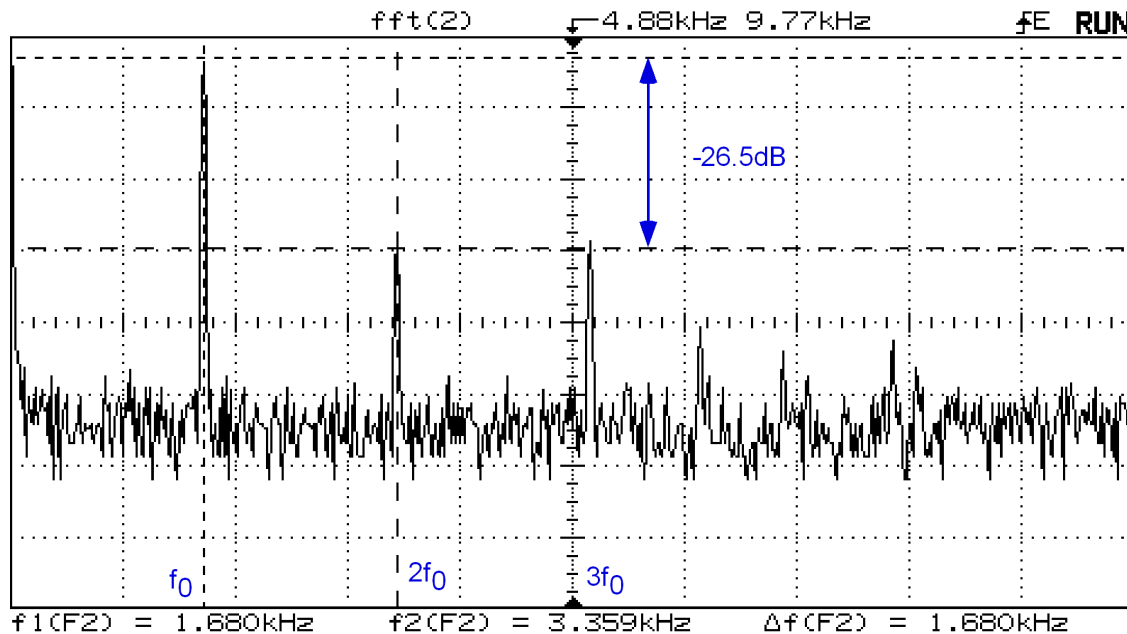
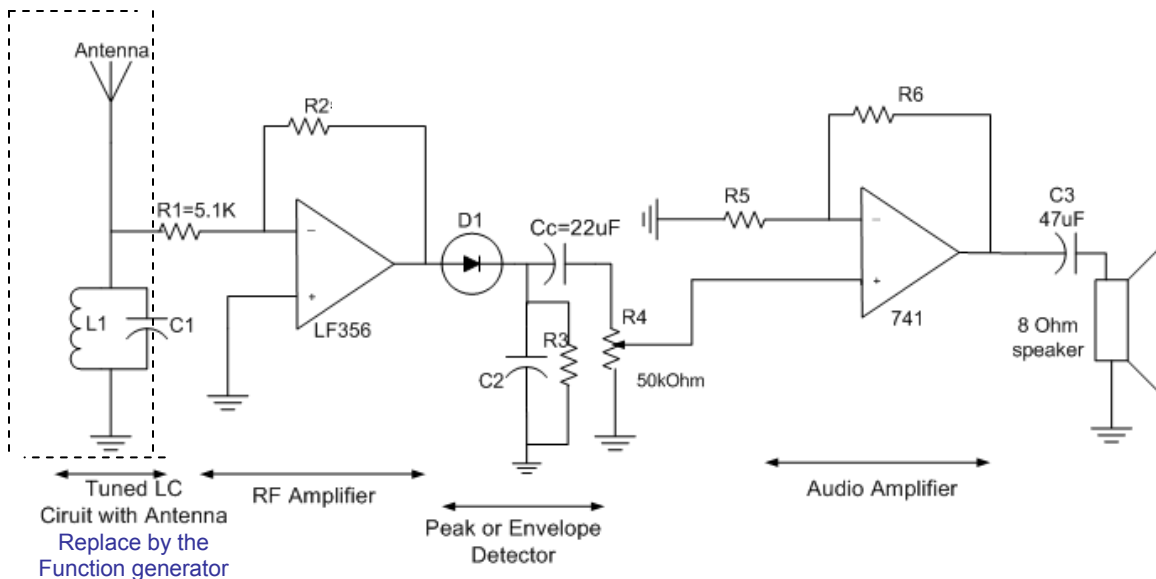

Figure 4: Spectrum of a distorted sinusoid with fundamental frequency $f_0=1.68\text{kHz}$.
Figure 5: Receiver circuit consisting of an amplifier stage, a peak-detector and an audio amplifier.
Since the *THD* is obtained by taking a ratio, it does not matter whether the amplitude is expressed in *RMS* or as a peak amplitude. As can be seen in Fig. 4, the magnitude of the frequency components in the spectrum is usually given in dB. In order to find the magnitude (in V) of each component one has to convert from dB into voltage. This can be easily done through the definition of dB:
The details of the receiver circuits are shown in Fig. 5. The first section consists of an antenna and a LC tuned filter followed by a wide-bandwidth amplifier (LF 356 with a gain-bandwidth product of 5 MHz). The tuned circuit selects the carrier frequency. The
3. The LF356 amplifier has a gain bandwidth product of 5 MHz. What is the bandwidth of the inverting RF amplifier configuration shown in Fig. 5?
- a. Find the value of C_2 and R_3 of the peak detector (Fig. 5), using expression (5). Use a value of R_3 in the range of 2-10 kOhm and select a capacitor according to expression (5).
- b. For the selected values of R_3 and C_2 calculate the corresponding ripple V_r/V_p (see expression (4). Assume a frequency f_c of 100 kHz.
5. Design the audio amplifier, shown in Fig. 4 such that it has a gain of 11. Use resistor values in the range of 1 to 10 kOhm.
1. Construct the amplifier using the LF356 as shown in Fig. 5. The pins of the amplifier are given above. Use a voltage of +12V, and –12V for the power supply. Place 0.1 uF decoupling caps between the power supply pins (4 and 7) and ground. Check that the amplifier functions properly. You can apply a small input voltage and measure the output voltage. Notice that the amplification is about **10**. *Do not saturate the amplifier.*
Display the output signal of the audio amplifier together with the transmitted AM signal $v_{am}(t)$ on the oscilloscope. Verify that the output signal corresponds to the modulation signal. When the output of the audio amplifier is a scaled version of the modulation signal, your circuit works properly. Make sure that the amplifier does not saturate. If needed adjust the values of the resistor R2 in Fig. 5 (i.e. adjust the amplification). Record the amplitude of the waveforms. Take also a snapshot of the waveforms.